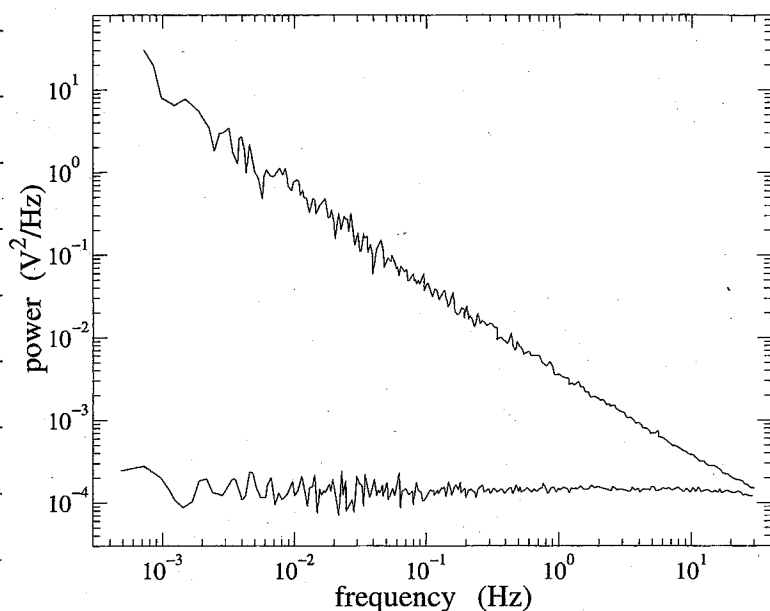

Fig 1: Noise in a 50  $\Omega$  resistor with and without a current.
- Figure 1 shows the Johnson and  $1/f$  noise for a carbon resistor.